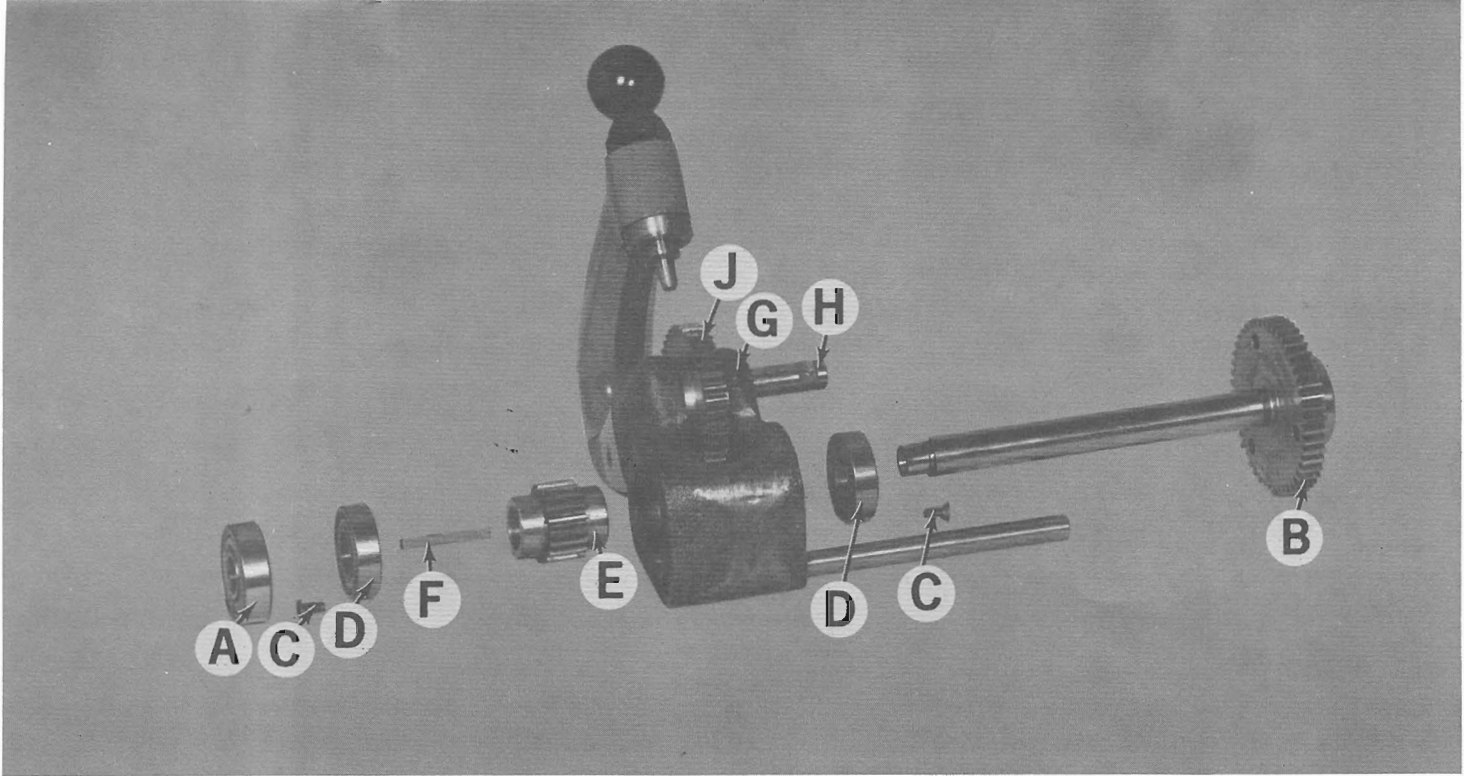

Figure 38 — Tumbler and Shaft Assembly
- (B). Remove spring "E" and plunger "F" from handle.
- (A). Press bearing "A", Figure 38, off tumbler shaft "B" and remove shaft.
- (B). Remove two screws "C".
- (C). Remove bearings "D", gear "E" and key "F".
- (D). Loosen set screw "G", remove shaft "H" to remove gear and bearing "J".